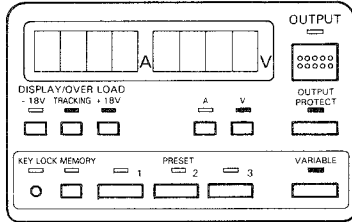

Fig. 9
- 1) Set the LEDs as shown in Figure 9.
Figure 9 indicates the case where positive voltage level is used.